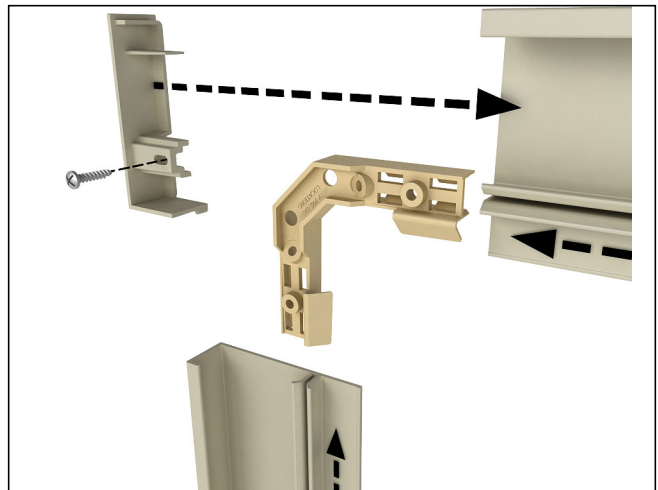

Figure 30
- Attach end caps to casing with supplied screws. See *figure 30*. Use tab to align jamb casing to header and sill pieces.